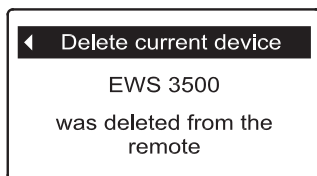

FIG. 78
5. Press the RIGHT (▶) button. The screen shown in Figure 78 will appear.